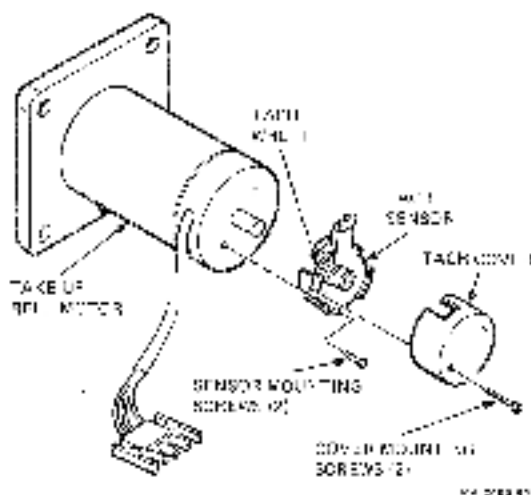

Figure 4-9 Take-Up Reel Motor Assembly
5. Remove the four mounting screws (Figure 4-9) securing the motor to the tape deck. Remove the motor from the transport.
3. Disassemble the spare take-up reel motor assembly as follows (refer to Figure 4-9):